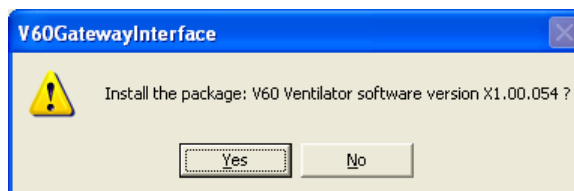

Figure A-2: Confirmation Screen
7. When the confirmation screen appears, click **Yes** to continue the software installation or **No** to exit (Figure A-2).